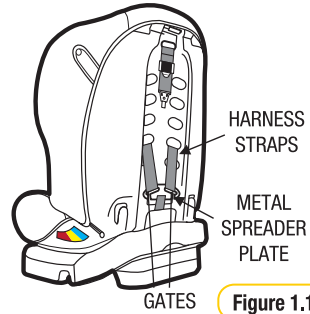

Figure 1.1
- Remove each shoulder harness through the gates in the spreader plate (see Figure 1.1 & 1.4).